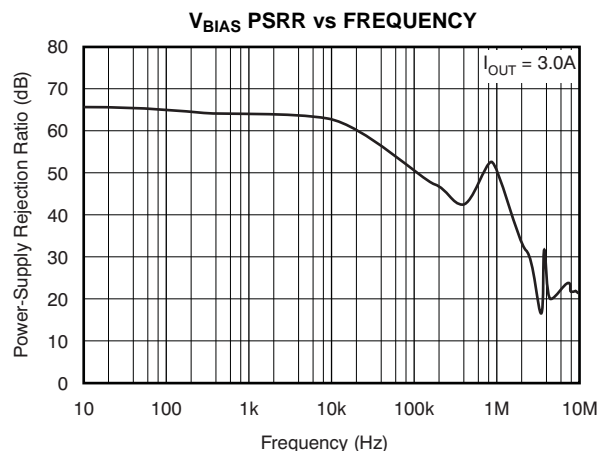
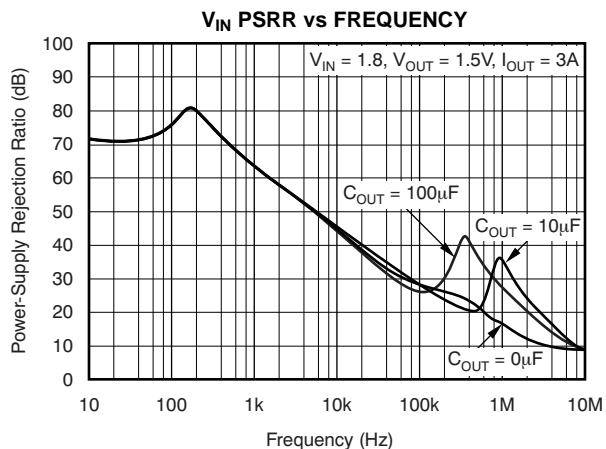

Figure 10.
Figure 13.
(1) Adjustable devices tested at 0.8V; external resistor tolerance is not taken into account.
(2) Dropout is defined as the voltage from the input to V_{OUT} when V_{OUT} is 2% below nominal.
(3) I_{FB} current flow is out of the device.
(4) See Figure 10 to Figure 13 for PSRR at different conditions.